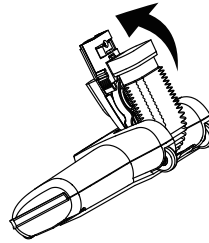

Fig.27
- Carefully remove any debris or blockage from the inside of the hose. Reattach the motorised brush head onto the main body (Fig.27).